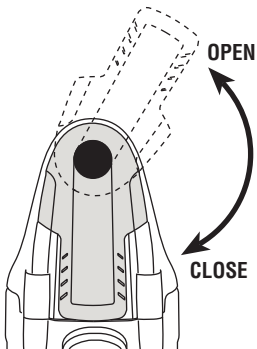
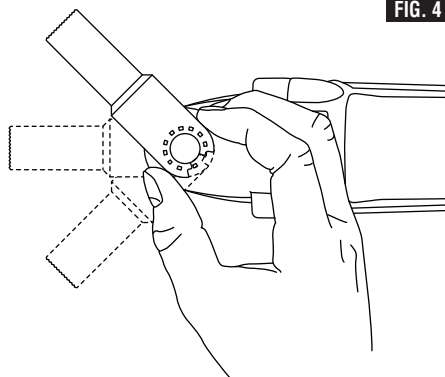

FIG. 2
FIG. 4
2. Turn the Quick Lock™ lever on the top on the tool counter-clockwise to unlock the clamping mechanism (Fig. 2). The lever needs to be fully engaged to unlock the clamping mechanism.
5. Turn the Quick Lock™ lever on the top of the tool in a clockwise motion, to the closed position, to securely lock the accessory in place (Fig. 2).
6. To remove an accessory, simply unlock the clamping mechanism by turning the Quick Lock™ lever counter-clockwise as described above (Fig. 2).
NOTE: Some accessories, such as scrapers or blades, may be mounted either straight on the tool, or at an angle to increase usability (Fig. 4). In order to do this with the Quick Lock™ interface, place the accessory onto the accessory holder making sure the accessory engages all pins in the holder and the accessory is flush against the accessory holder. Securely lock the accessory in place as described previously (Fig. 2).